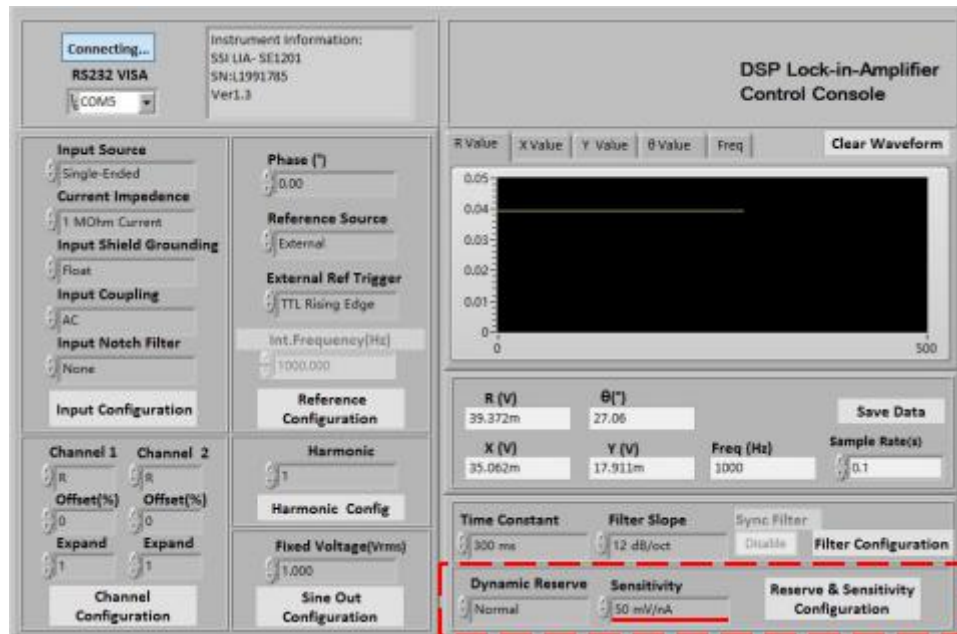

Fig.51 Reserve & Sensitivity Configuration
4. Choose these two options in “Reserve & Sensitivity Configuration”, including “Dynamic Reserve” and “Sensitivity” with other options in default, as is shown in Fig.51. At last, click the button **Reserve & Sensitivity Configuration** to finish the configurations.